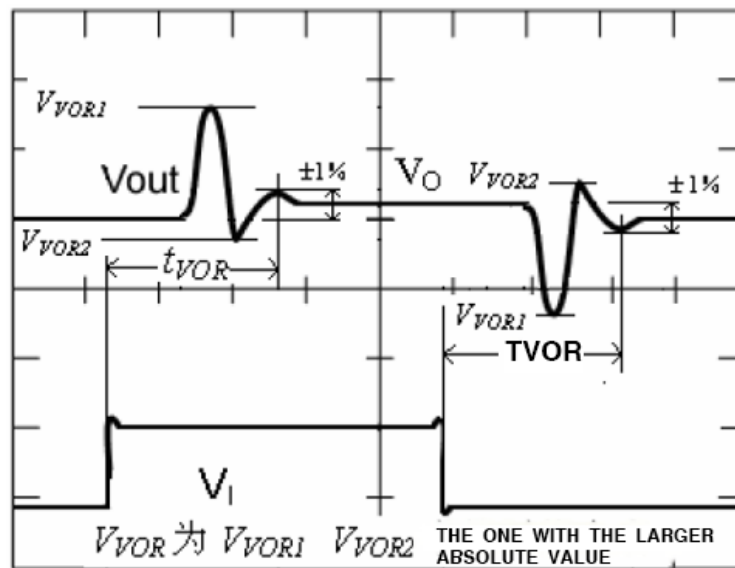

Figure A.6 Output voltage response (peak value) during input voltage transient,
- When the input voltage jumps between its maximum and minimum values, the maximum change in the output voltage is V_{OR} , as shown in Figure A.6.
t_{VOR} is the time taken for the output voltage to return to its stable value within $\pm 1\%$ of the input voltage when the input voltage jumps between its maximum and minimum values, as shown in Figure A.6.